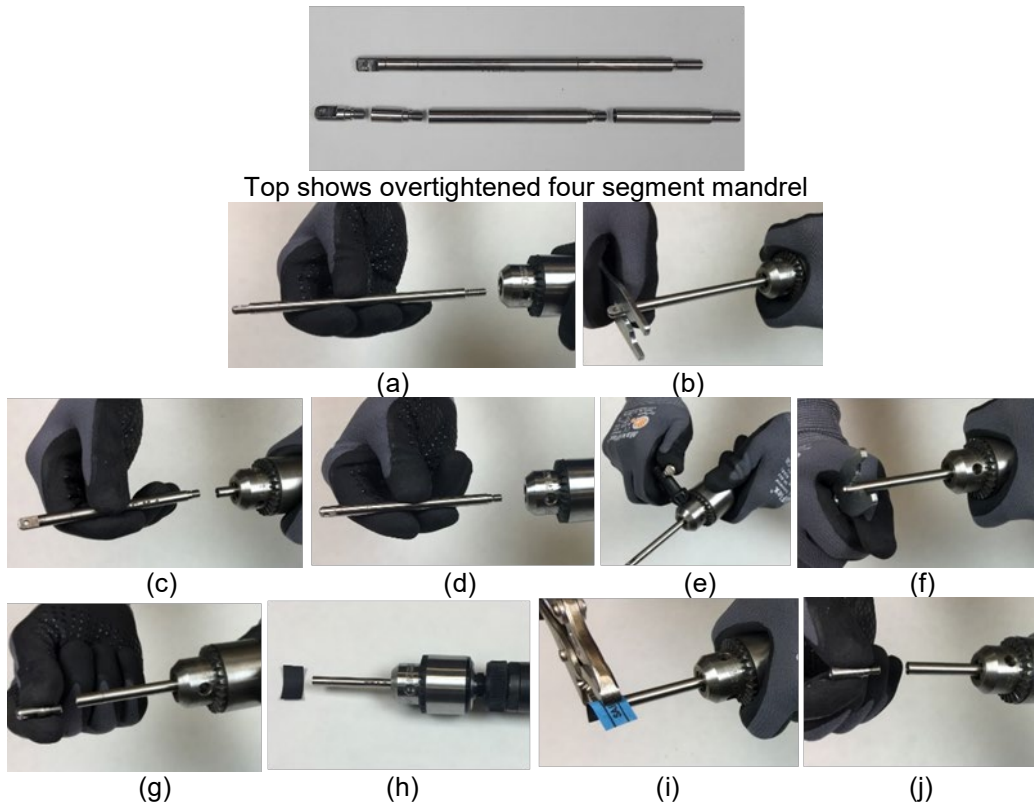

Figure 13. Loosening of Mandrel Segments
- i. Chuck mandrel in drill (Fig 13(a))
- ii. Apply combo flat wrench to eyelet (Fig 13(b))
- iii. Loosen assembly (Figure 13(c))
- iv. Place remaining overtightened mandrel segment into drill chuck (Fig 13(d))
- v. Tighten chuck (Figure 13(e))
- vi. Apply combo flat wrench to eyelet, loosen assembly (Fig 13(f))
- vii. Remove mandrel segment (Figure 13(g))
- viii. Obtain a small piece of sand paper (Figure 13(h))
- ix. Wrap sand paper (abrasive surface of the sand paper should contact the mandrel) around the mandrel and lightly grip with vice-grips and turn (Figure 13(i))
- x. Remove last mandrel segment (Figure 13(j))